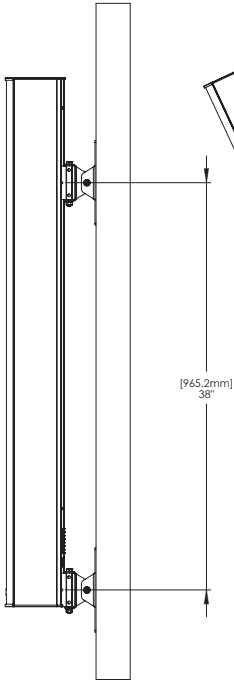

Fig. 2a
- B. If the speaker will be parallel to the wall, the upper wall bracket can be located 25" to 38" center to center. Two short speaker brackets, one on the top and one on the bottom will be used. Refer to figure 2a.